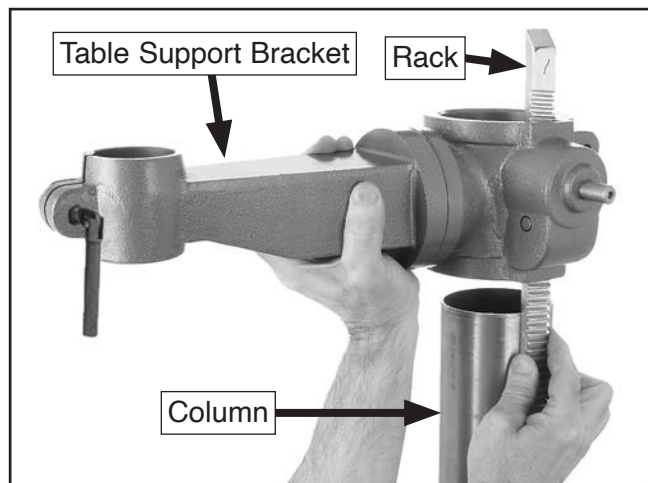

Figure 15. Example of sliding table support bracket and rack over column.
4. **T33903:** Place rack inside of table support bracket, mesh it with pinion, and slide bracket over column, as shown in **Figure 15**.